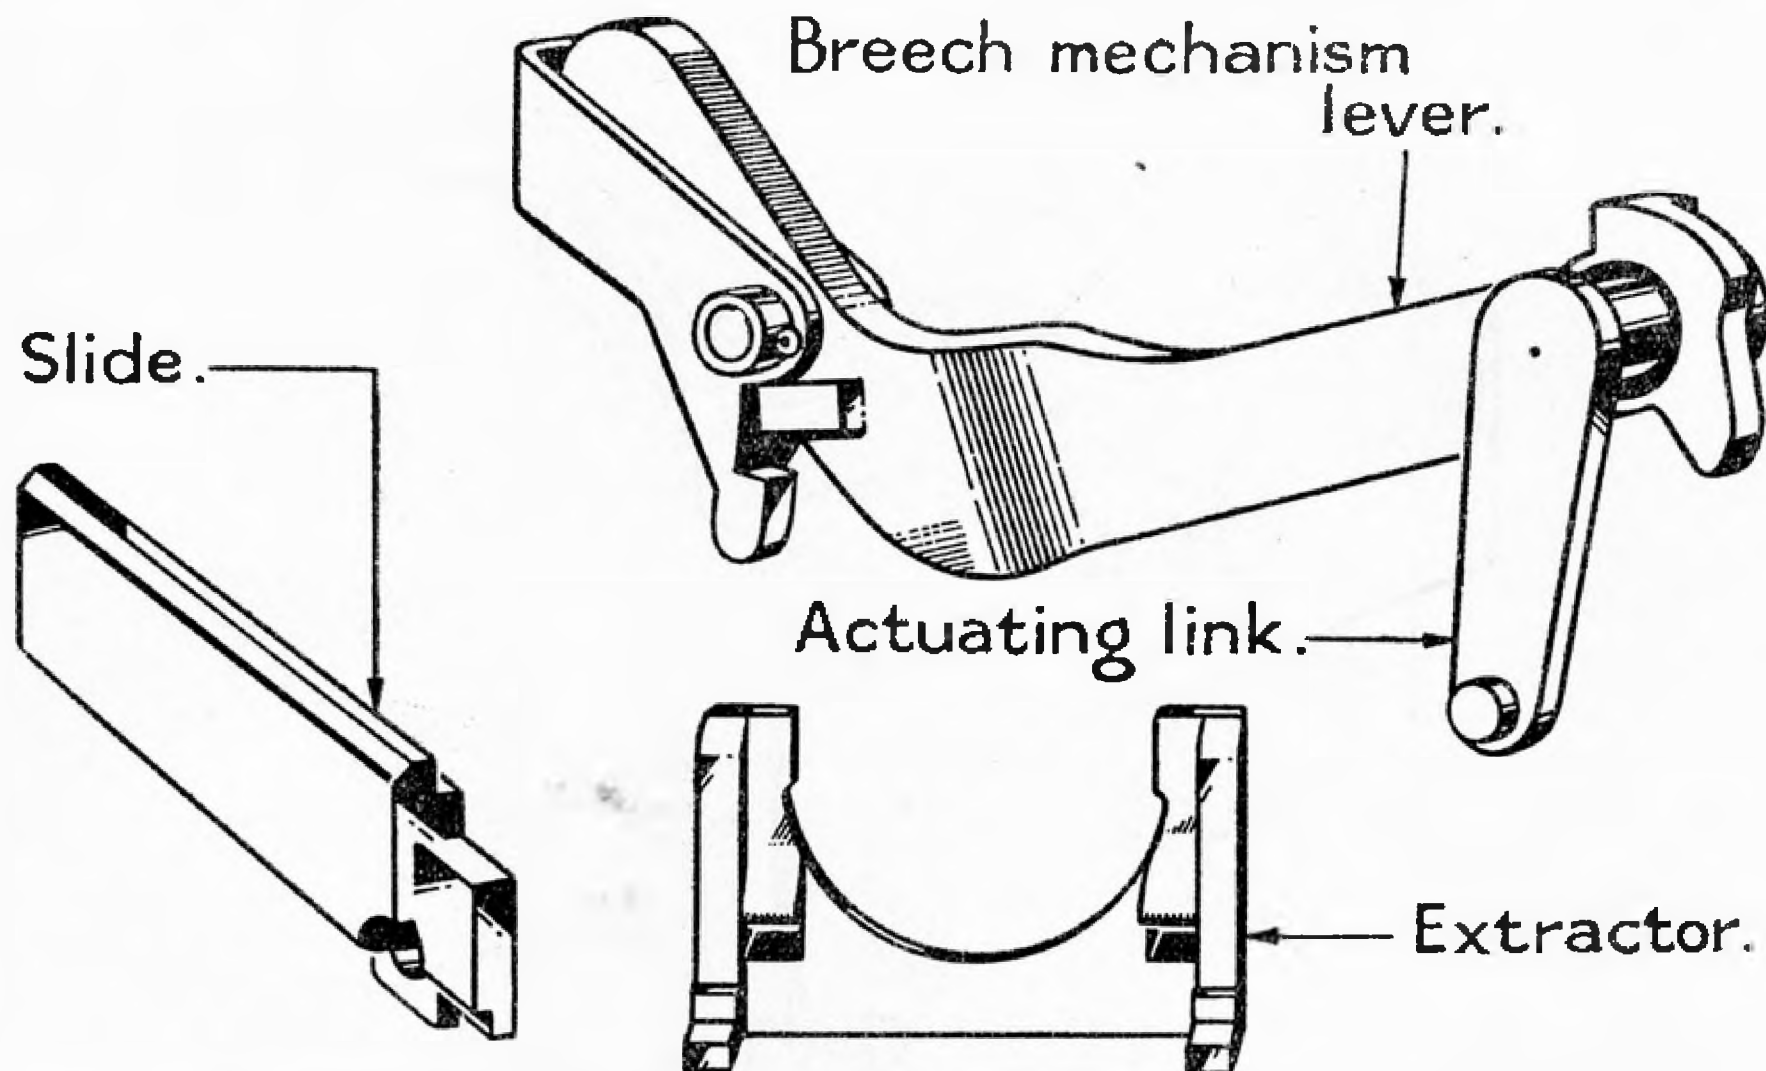

FIG. 4.—7.5 CM. (2.95 IN.) LIGHT INFANTRY HOWITZER (7.5 CM. I.I.G. 18)—
i. *The extractor* (see Fig. 4) is of the plate type and fits into a recess in the rear face of the breech ring. It is prepared with a recess on each arm to receive the toes on the extractor retaining catches, which are shaped to retain the extractor in the open position (see Fig. 4). The retaining catches fit into recesses in the slipper block and are secured by the shaft of the safe and fire lever.
iv. *The actuating link* (see Fig. 4) is bar-shaped with two studs on opposite sides, one at either end. The inner stud engages in a hole cut in the slide; the outer stud passes through a hole cut in the right side of the slipper block to engage in the rear end of the L.B.M.
v. *The slide* (see Fig. 4) is dovetailed and engages in a groove cut in the right side of the breech ring. It is bored at the rear to take the inner stud of the actuating link.